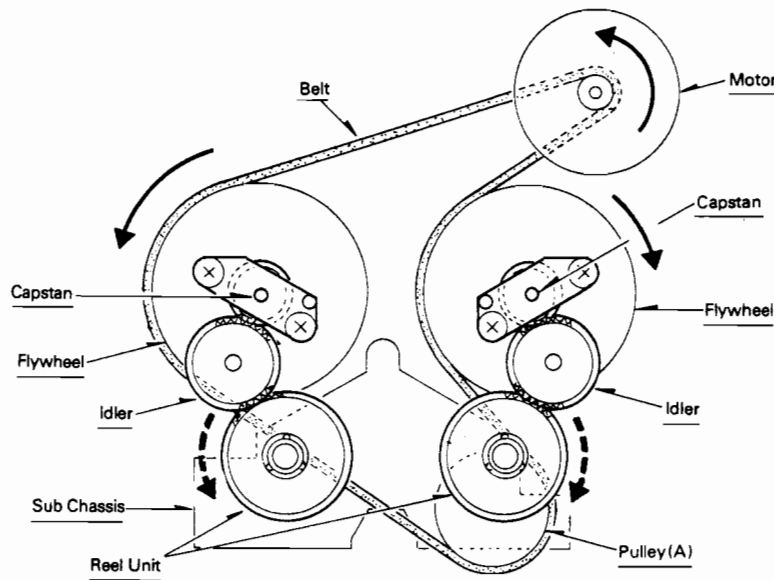

Fig. 6
• **Tape tightening mechanism (Fig. 6)**
1. The Flywheel and Pulley (A) are Belt driven by the Motor. The Reel Units are each driven by the gear connected to the Flywheel through the Idler. As seen in Fig. 6, the Capstan always rotates in the arrowed direction.